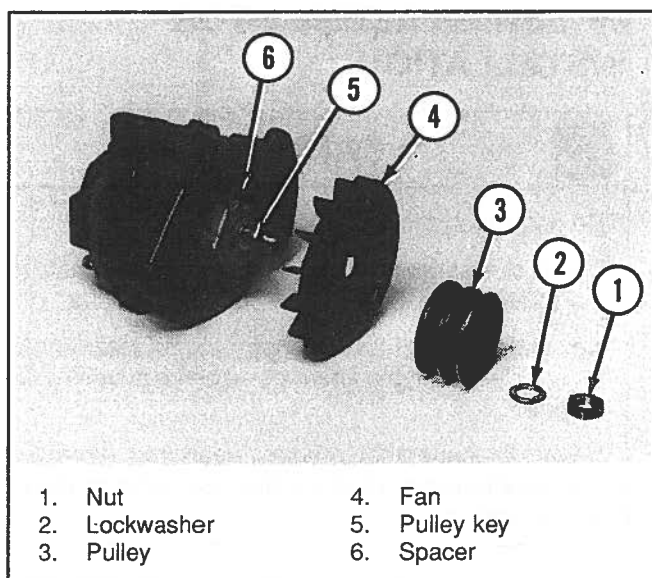

Figure 6-88. Installing Pulley
8. Install the spacer, pulley key, and the fan. Then push the pulley, lockwasher and nut onto the shaft (Figure 6-88). Tighten alternator pulley nut to 35-50 lb-ft (47-68 N•m) torque.